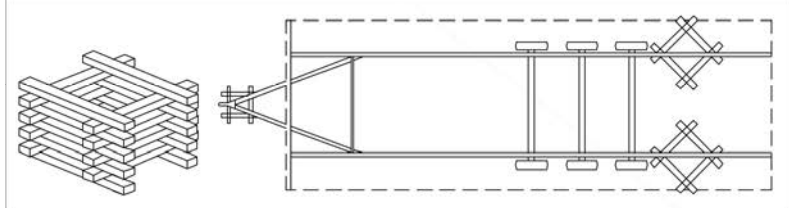

Figure 20. Stack 4" x 6" by 5' long timbers as shown to form safety limbers. Place safety limbers under home behind axle area and under hitch.
- Make sure adequate safety cribbing (Figure 20) is in place whenever the home is placed on jacks.
- Install cribbing.** Install safety cribbing (Figure 20).
**Utilize proper cribbing.** Manufactured homes weigh several tons. No one should be under the home (whether it is moving or stationary) unless proper cribbing is in place (Figure 20). Failure to utilize proper cribbing may result in serious injury or death.